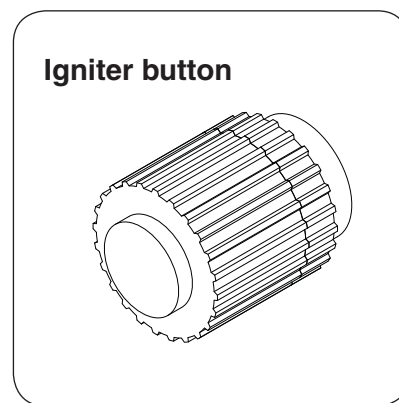

Fig. 21-1
3. Press and hold the electronic igniter button (see Fig. 21-1). The igniter will begin to spark with a rapid clicking sound.